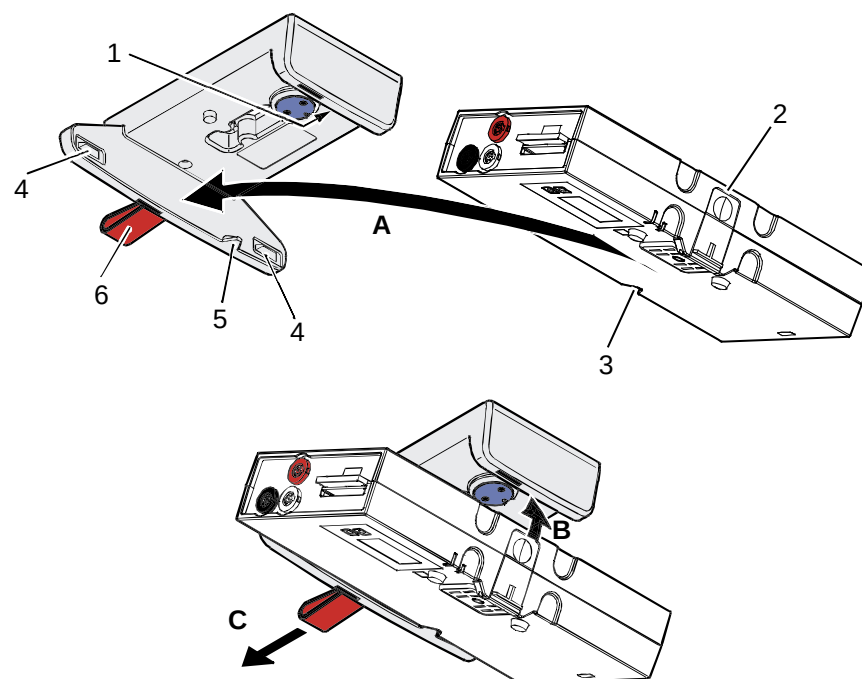

Fig. 4-33 Inserting the patient box into the charging bracket (ceiling installation)
1. Position the patient box as shown in Fig. 4-33.
1. Disconnect the safety belt (not illustrated in Fig. 4-33).
2. Firmly hold the patient box and pull the loop (item 6) sideways (item C).